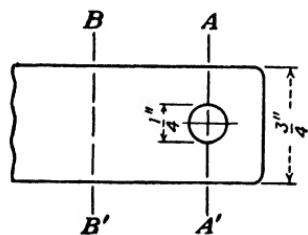
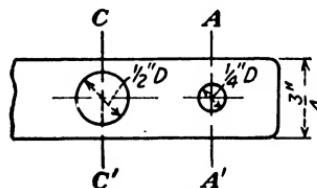

Fig. 225.
Fig. 226.
1. Using Table 12, find the tensile strength of the fitting in Fig. 225, (a) at section BB' , (b) at section AA' . The material is $\frac{1}{16}$ -in. low-carbon steel.
2. Suppose that a $\frac{1}{2}$ -in. hole were drilled by a careless mechanic in the fitting in Fig. 225. What is the strength of this fitting in Fig. 226 now?